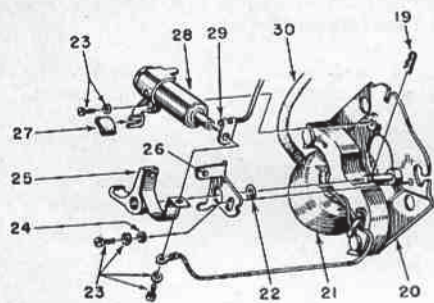

Fig. HL240—Exploded view of magneto coil and breaker assembly.
Fig. HL239—View showing magneto rotor, magneto and back plate installation. Breaker cam (5) is removable from crankshaft. Cam key (3) and rotor key (2) both fit in same crankshaft keyway (K). Refer to Fig. HL240 for exploded view of magneto coil and breaker assembly (7).
IGNITION SYSTEM. Refer to Fig. HL239 for view showing magneto rotor (flywheel), breaker cam, magneto assembly and back plate. Fig. HL240 shows exploded view of magneto. Magneto is accessible after removing recoil starter assembly and crankshaft nut, then pulling rotor from crankshaft using Homelite tool No. AA-22560 puller or equivalent.